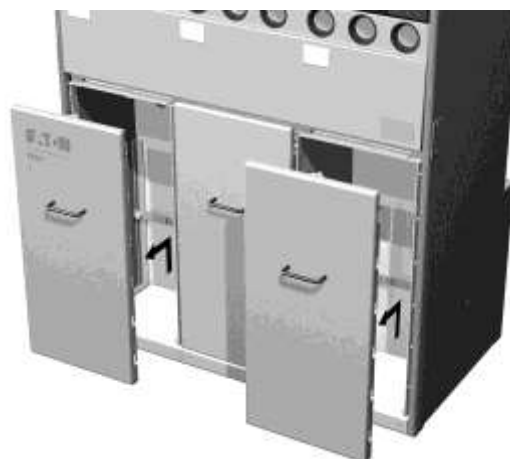

Figure 3-4: Opening the cable access door
2. Remove the doors of the left- and right-hand panels, see Figure 3-4.